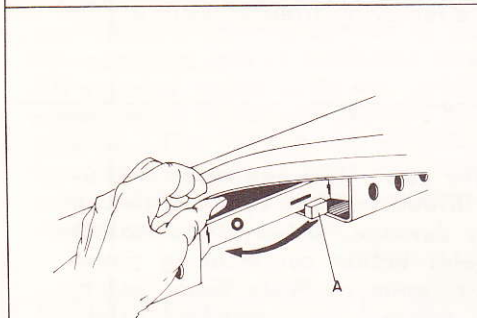

Fig. 2
SETTING MOTION—The dual motion feature of your sander with its readily accessible slide lever for quick, error free motion setting allows required motion for any sanding application. If your particular requirement is fast cutting action for removing old finishes, smoothing rough wood, cutting stock down to required dimensions or for sanding of surfaces to be painted, orbital motion is best suited. **IMPORTANT—BE SURE POWER CORD IS DISCONNECTED FROM POWER SUPPLY.** (See Fig. 2) Slide lever (A) toward the 0 mark on platen as far as possible. Spring action will hold lever at required setting until motion change is required. For fine finish sanding on work to be stained or varnished and for use with polishing pad, straight line motion is ideal. **IMPORTANT—BE SURE POWER CORD IS DISCONNECTED FROM POWER SUPPLY.** (See Fig. 2) Slide lever (A) toward the — mark on platen as far as possible. This motion along with moving the sander with grain, will produce a finish equalled only by a skilled craftsman hand sanding. **DO NOT ATTEMPT CHANGING MOTION SETTING WHILE UNIT IS OPERATING.**